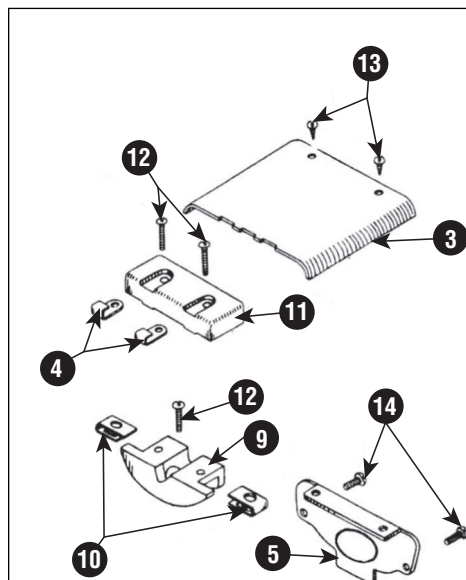

Figure 4 - Parts Bag 168-016505-002 (to convert Style 0, 1 and 3B)
heater's terminal arrangement and order the corresponding parts bag (Figures 4 and 5). If an element or other part listed in Table A (page 3) is necessary, order according to heater housing length and the voltage and wattage stamped on the element and the heater nameplate.
4. Besides the Parts Bag 168-016585-002 (Fig. 4), you will need insulation bushings **6**, element support clips **7**, reflector **2** and element (if required) as listed in Table A, page 2.